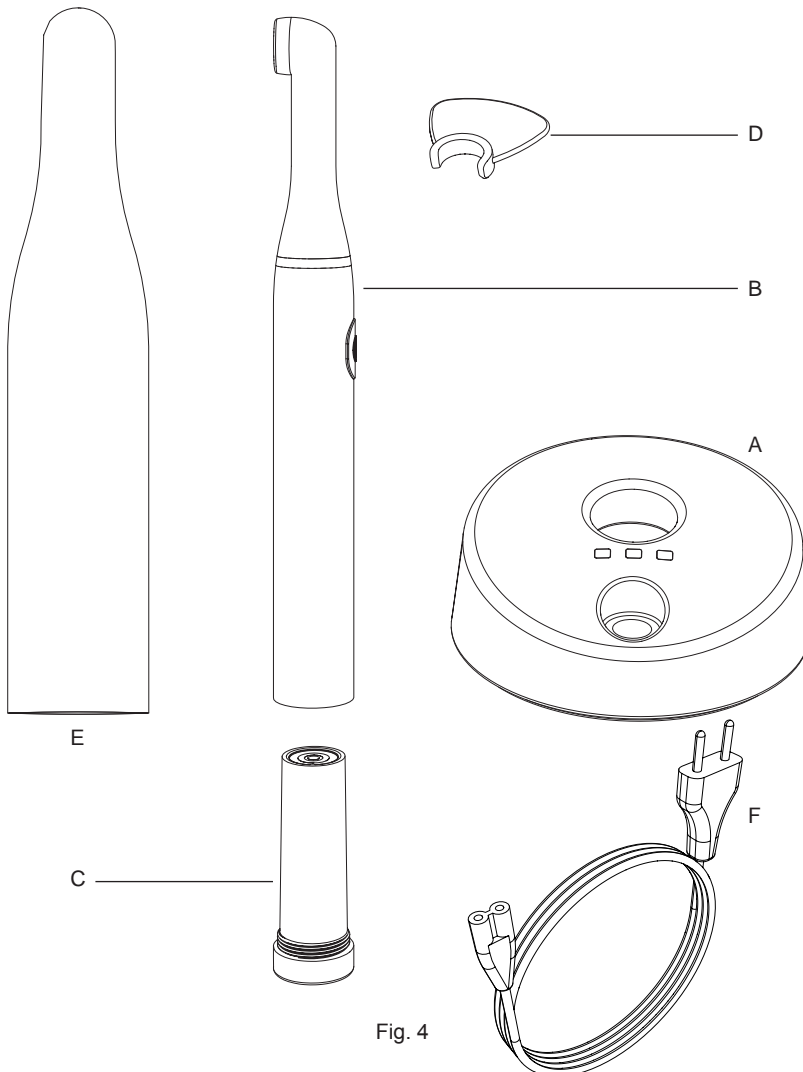
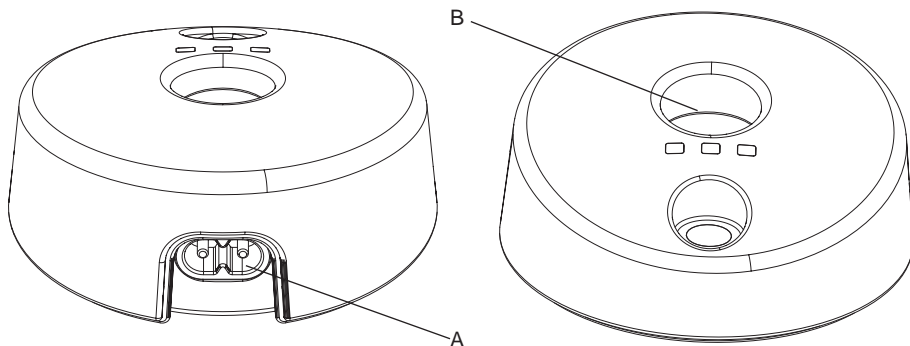
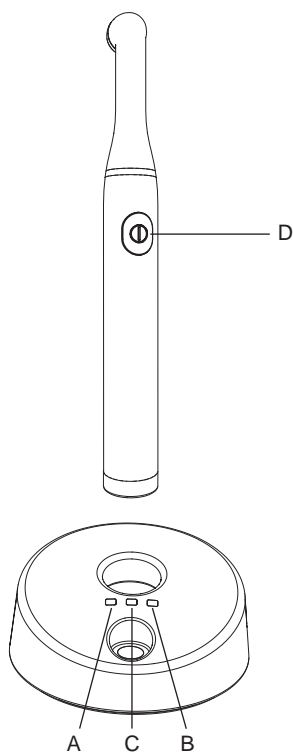

Fig. 4
Fig. 5
Fig. 7
- 1 *starlight uno* charging unit (Fig.4 - Ref.A).
- 1 *starlight uno* handpiece (Fig.4 - Ref.B).
- 1 Rechargeable lithium-ion battery module (Fig.4 - Ref.C).
- 1 Optical protection (Fig.4 - Ref.D).
- 50 Single use protective sheaths (Fig.4 - Ref.E).
- 1 Power supply cable for the charging unit (Fig.4 - Ref.F).
⚠ **WARNING:** Do not insert metal objects into the handpiece of the charging unit (Fig.5 - Ref.B) when the device is on.
- 2 Plug the power cable (Fig.4 - Ref.D) into the connector on the rear of the equipment (Fig.5 - Ref.A) and then into the power outlet. The green power LED should light up (Fig.7 - Ref.A).
Description of the controls (Fig. 4):
- 1 Insert the handpiece into its housing in the charging unit (Fig.5 - Ref.B). The green battery LED will light up (Fig.7 - Ref.B).
- 1 Place the handpiece in its housing in the charging unit (Fig.5 - Ref.B). The green battery LED will light up (Fig.7 - Ref.B).
When the low battery handpiece is placed in the charging unit and the battery green LED on the charging unit remains off this means that there is a fault with the battery (Fig.7 - Ref.B).
⚠ WARNING: Do not insert metal objects into the handpiece of the charging unit (Fig.5 - Ref.B) when the device is on.
- To start the FAST exposure cycle press the **on/off** button on the handpiece briefly (Fig.7 - Ref.D). An acoustic signal will be heard (1 beep) and the green LED on the handpiece will light up.
- To start the SLOW RISE exposure cycle hold the **on/off** button on the handpiece down for 2 seconds (Fig.7 - Ref.D). At the start an acoustic signal will be heard and after 2 seconds another acoustic signal to confirm the SLOW RISE cycle beginning. The yellow LED on the handpiece will light up.
Both in the FAST and in the SLOW RISE mode, the exposure cycle can be broken off at any time by pressing the **on/off** button on the handpiece (Fig.7 - Ref.D).
At the end of any exposure cycle, it is possible to carry out one or more additional cycles by pressing the **on/off** button on the handpiece again each time (Fig.7 - Ref.D).